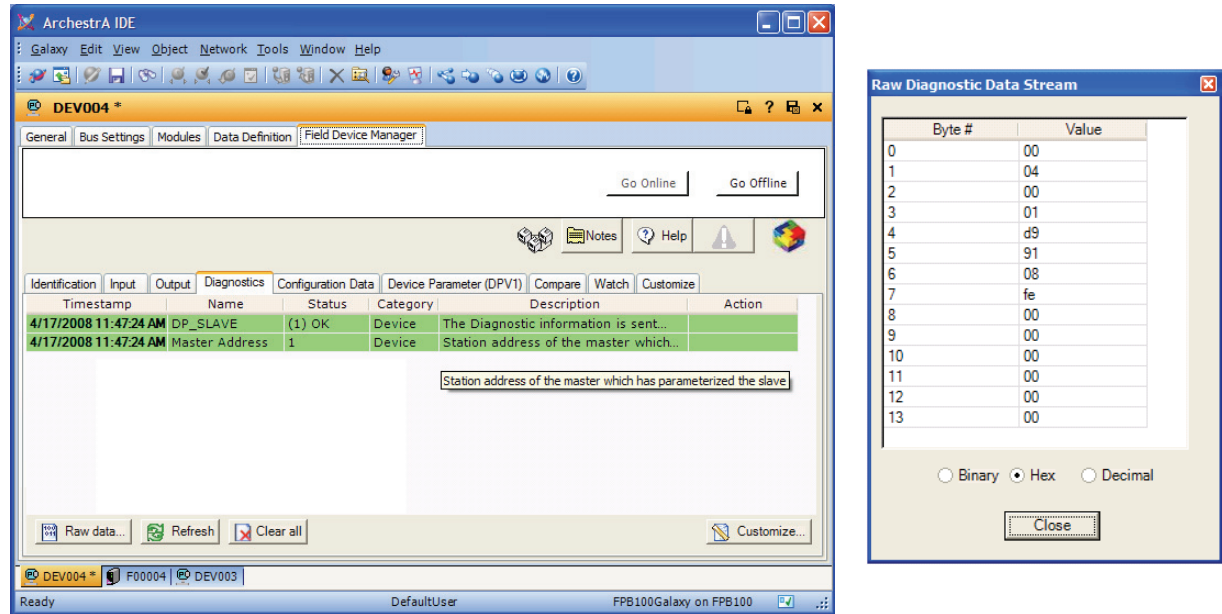

Figure 9. Field Device Manager Displays Diagnostics Messages as well as Raw Device Diagnostic Data
- Diagnostics tab displays diagnostic messages specified in the GSD and those which you define in the Data Definition tab based on either device diagnostics or DPV1 device parameters (Figure 9).